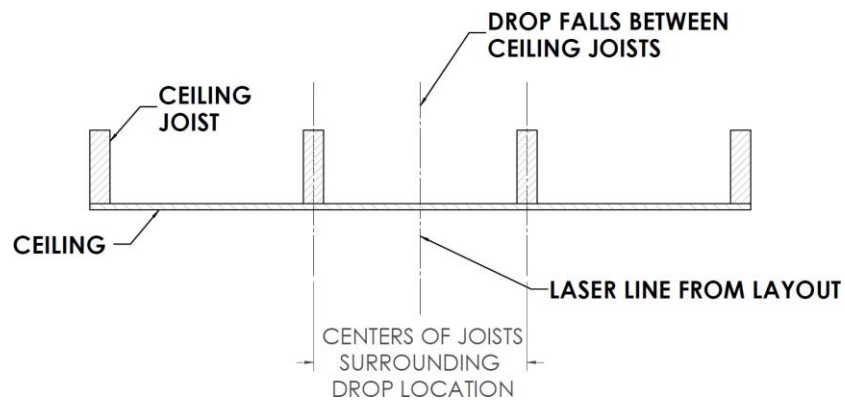

Figure 150: **Bracket Location Between Wood Joists**
1. At each ceiling bracket attachment location, use a stud finder or pilot bit to identify the centers of the wood joists that the bracket location falls between (Figure 150)